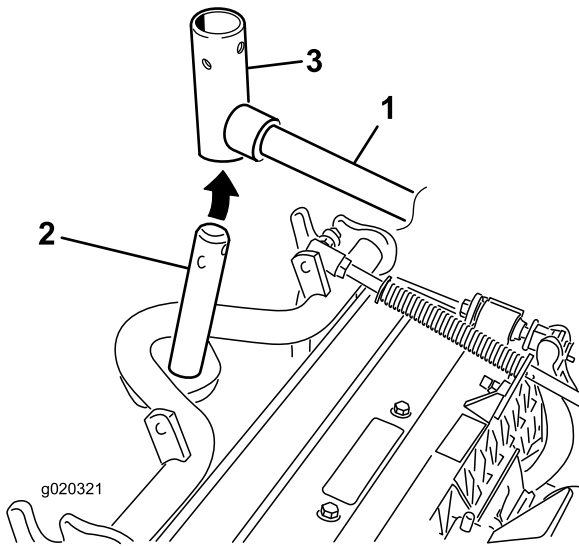

Figure 7
8. For the front cutting units, slide a cutting unit under the lift arm while inserting the carrier frame shaft up into the lift-arm pivot yoke (Figure 7).
- B. Insert the lift-arm yoke onto the carrier frame shaft (Figure 7).